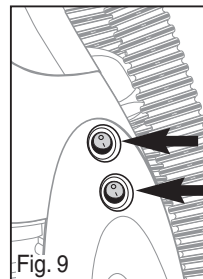

Fig. 9
- 2) Press top and bottom switches ON (1) and lower handle to vacuum carpet (Fig. 9).